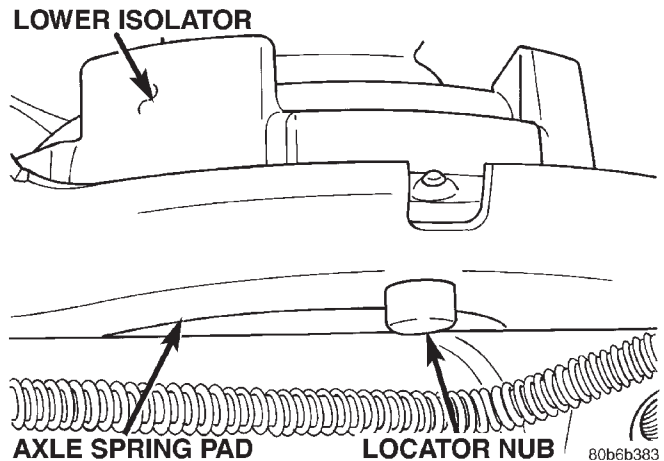

Fig. 4 Isolator Locator Nub
- (1) Install the upper isolator.
- (2) Install the lower isolator with the isolator locator nub in the axle pad hole (Fig. 4).
- (3) Pull down on the axle and position the coil spring in the lower isolator.